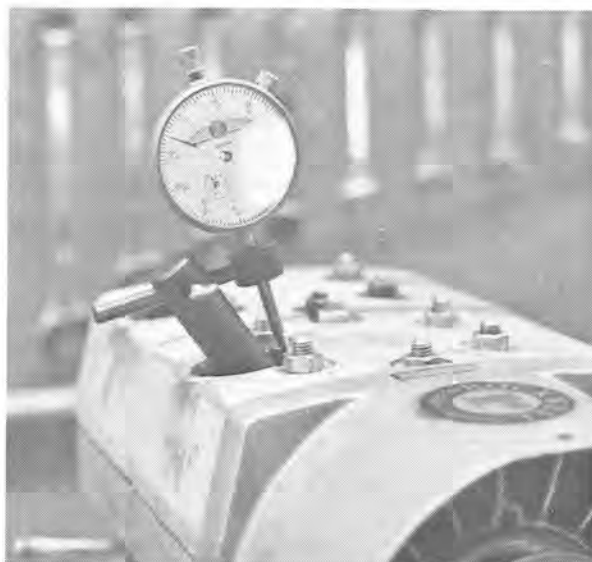

FIG. 1-71
- E. Remove dial indicator assembly and install in No. 2 cylinder (fan side). See Fig. 1-71.